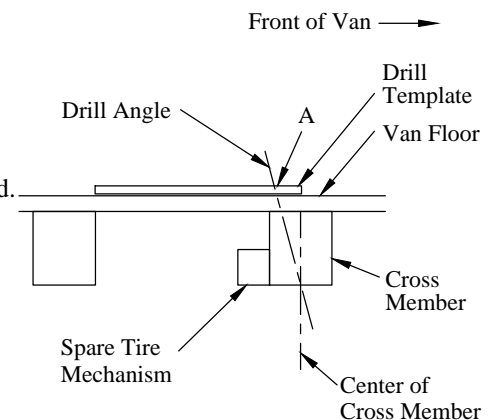

Figure 5: Section Y-Y, side view of "A" drilling location (side view).
16. Drill a 3/8" hole in the center "A" location only: angle the drill toward the front of the vehicle, and only drill through the floor, not through the cross member below (Figure 5).
Drill up from the bottom side, in the center-middle of the cross member (Figure 5).